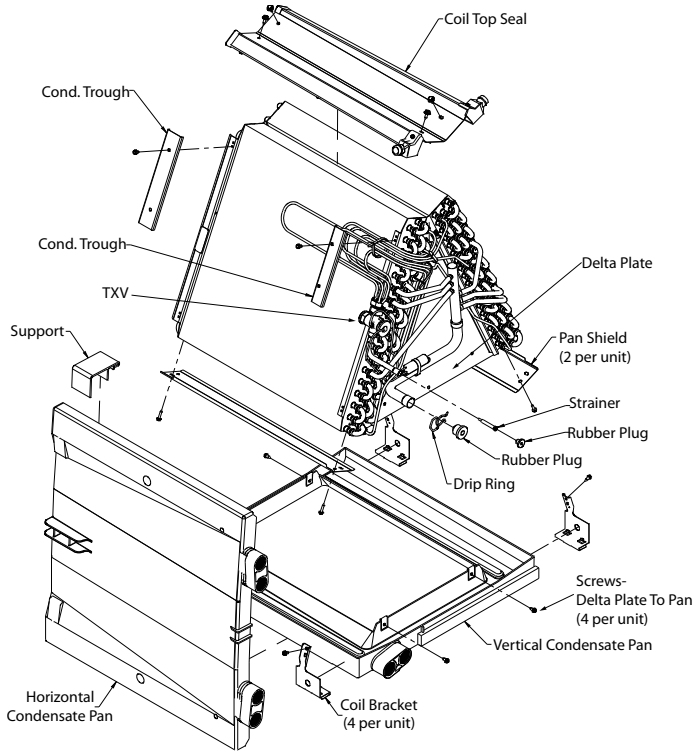

Fig. 32 – A-Coil Component Location
8. Remove horizontal condensate drain pan from coil (if present) and condensate pan assembly (Fig. 32).
9. Remove 4 coil brackets if present (Fig. 32).
10. Remove screws at delta plates and remove coil from vertical condensate drain pan (Fig. 32).
11. Horizontal Applications Only—Remove drain connections and J-shaped tube from original coil, and install them in same position on new coil (Fig. 32).
12. Place coil assembly in plastic condensate pan and secure with 4 screws through delta plate (Fig. 32).
13. Horizontal and Upflow Applications Only—Attach 4 coil brackets to coil and pan assembly (Fig. 32).
17. Horizontal Applications Only—Reinstall horizontal pan clip and secure with 1 screw (Fig. 32).